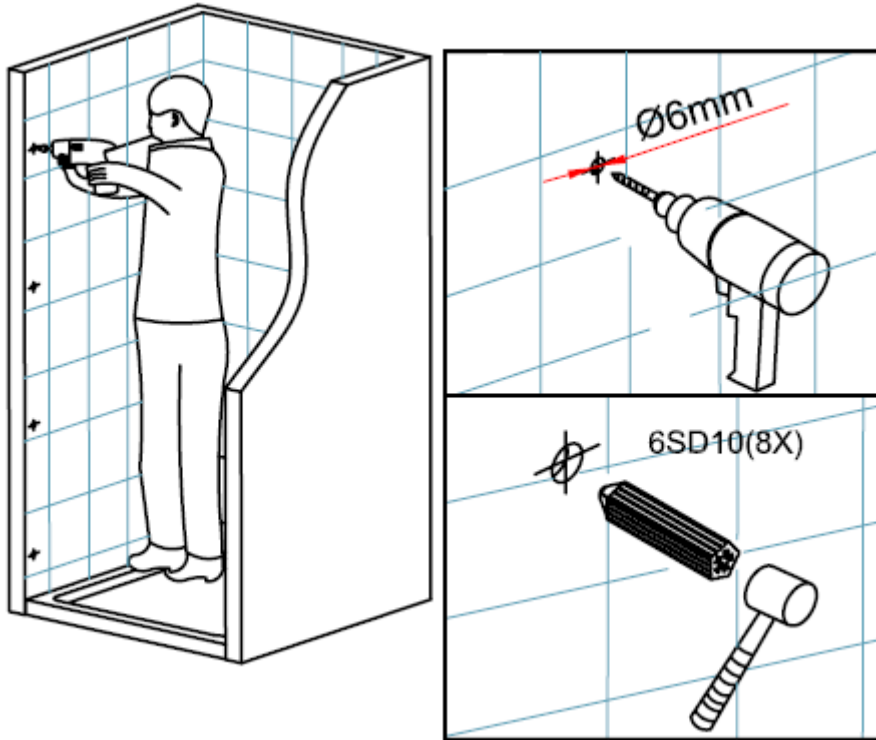

Figure 3
3. Drill the holes(  $\phi$  6mm) into the wall according to the marks made and insert the wall plugs (6SD10) into the holes, as shown in figure 3